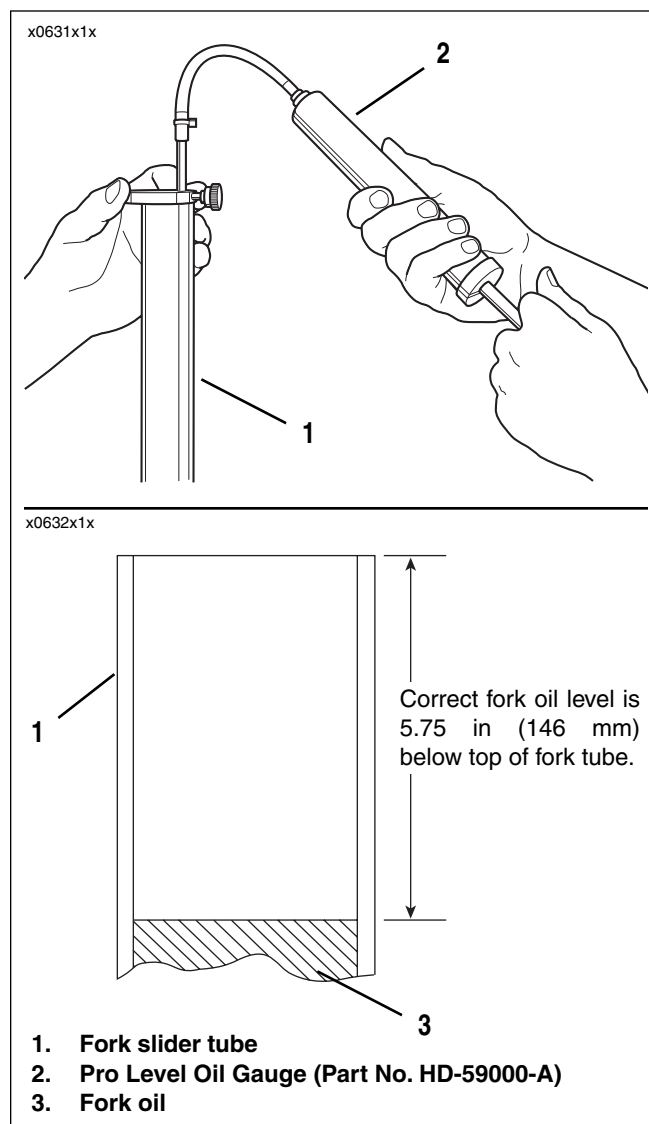

Figure 1. Refilling Front Fork Oil
3. See Figure 1. Using Pro-Level Oil Gauge (Part No. HD-59000-A), adjust oil level to 5.75 in. (146 mm).